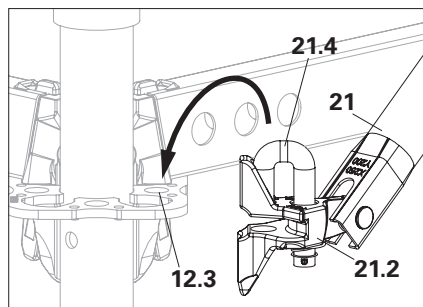

Fig. A4.03c
3. Push the brace head (21.2) with raised bolt (21.4) onto the lower rosette. (Fig. A4.03c)